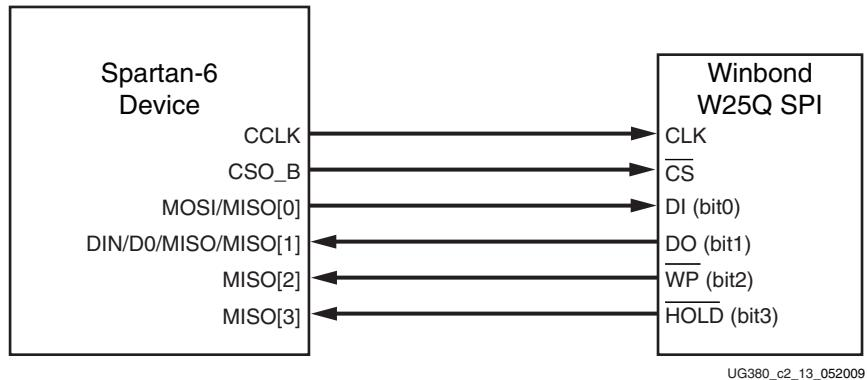

Figure 2-13: Master Serial Quad-Bit SPI Configuration
Figure 2-12 shows the connections for an SPI configuration with a data width of x1 or x2. These connections are the same because the x2 flash devices use the D pin as a dual purpose Data In/Out pin. Connections for the SPI x4 option are shown in Figure 2-13, page 44; two additional data pins provide a 4-bit data interface. Daisy-chained configuration mode is only available in SPI x1 mode. The FPGA pin connections to the SPI flash involved in the Master SPI mode are listed in Table 2-5.
Spartan-6 FPGAs also support x4 configuration with SPI flash in Master Serial Mode. See Figure 2-13.
Notes relevant to Figure 2-13:
1. The connection shown in Figure 2-13 uses the Winbond W25Q SPI series flash memory. Other SPI devices are supported, including devices from Spansion and Micron. For a complete list, see the URL for the ISE software overview at the beginning of SPI Configuration Interface, page 40.